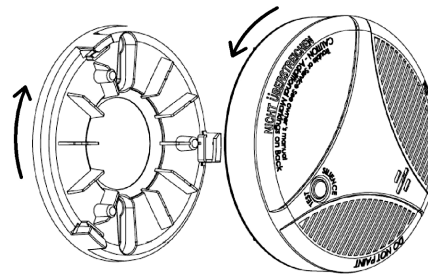

Fig. 7: Removing the Mounting Bracket
2. Remove the mounting bracket from your detector by rotating it counterclockwise, shown in **Fig. 7**.